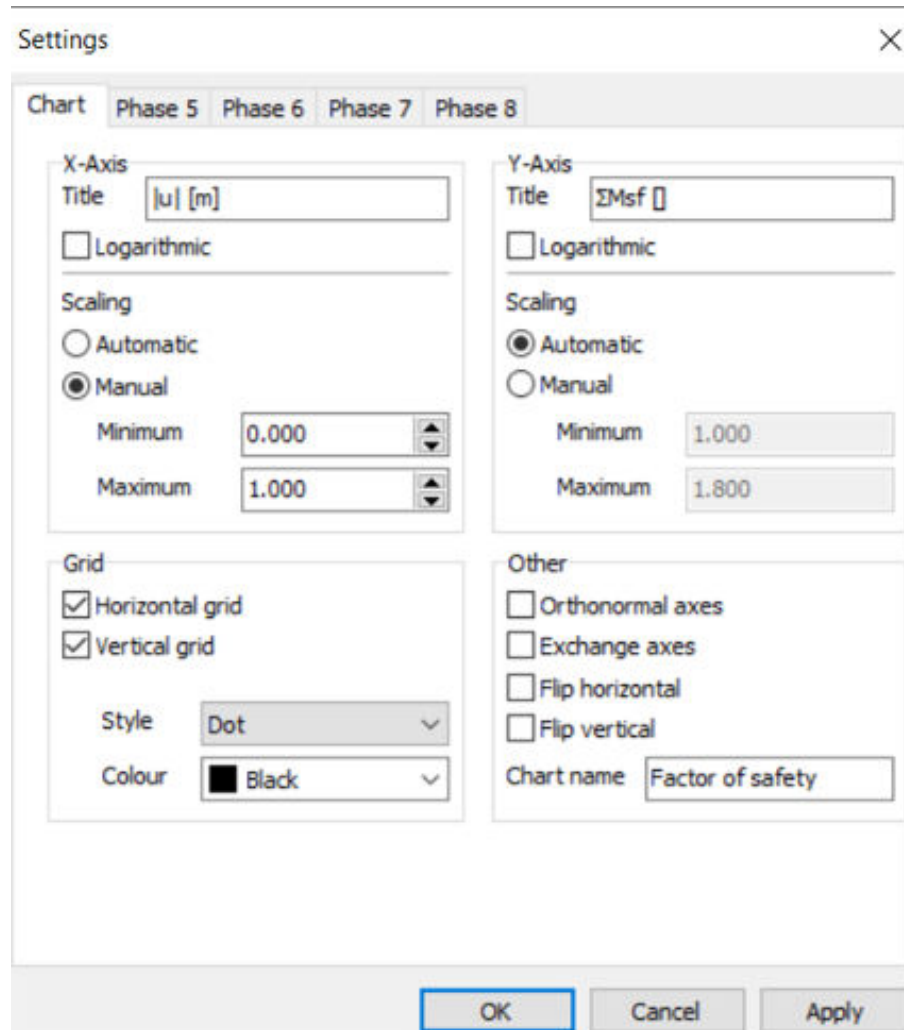

Figure 125: The Chart tabsheet in the Settings window
13. Set the scaling of the x-axis to **Manual** and set the value of **Maximum** to 1 as shown in Figure 125 (on page 143):